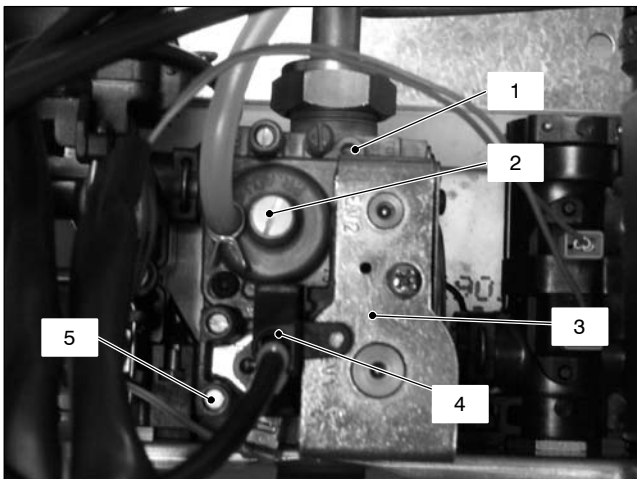

Fig. 11.2
11.2 Description of the parts (Fig. 11.2)
- 3 Loosen the internal screw on the Inlet Pressure Test Point 5 (Fig. 11.2) of the Gas valve and connect a pressure gauge using a suitable hose.
- 10 Disconnect the pressure gauge and close the Inlet Pressure Test Point 5 (Fig. 11.2).
- 21 Read the CO₂ % value. It should be between 9,0 and 9,8 % (natural gas G20) or between 10,0 and 11,0 % (LPG G31). To adjust the CO₂ % value remove the brass plug by unscrewing it and rotate the Allen key screw ø 4 mm (2 – Fig. 11.2) (by rotating it clockwise the CO₂ % increases).
- 24 Read the CO₂ % value. It should be between 9,0 and 9,8 % (natural gas G20) or between 10,0 and 11,0 % (LPG G31). To adjust the CO₂ % value rotate screw (1 – Fig. 11.2) (by rotating it clockwise the CO₂ % decreases).
- 27 After adjustment fit the protective brass plug (2, Fig. 11.2).
- 2 Disconnect the electrical connector 4 (Fig. 11.2).